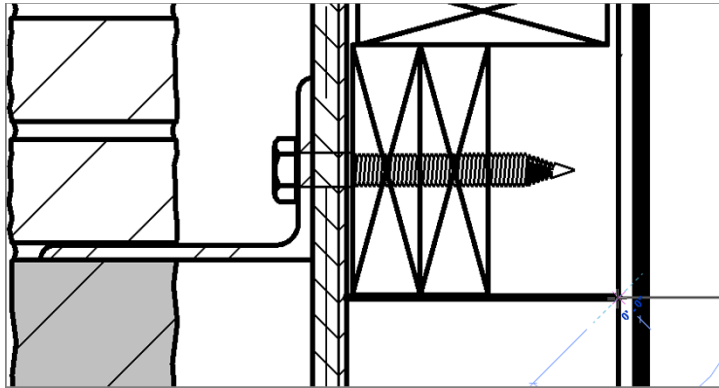

FIGURE 12.48: Drawing a medium line
5. Draw a line, as shown in Figure 12.48. Be sure to use your endpoint and perpendicular snaps.